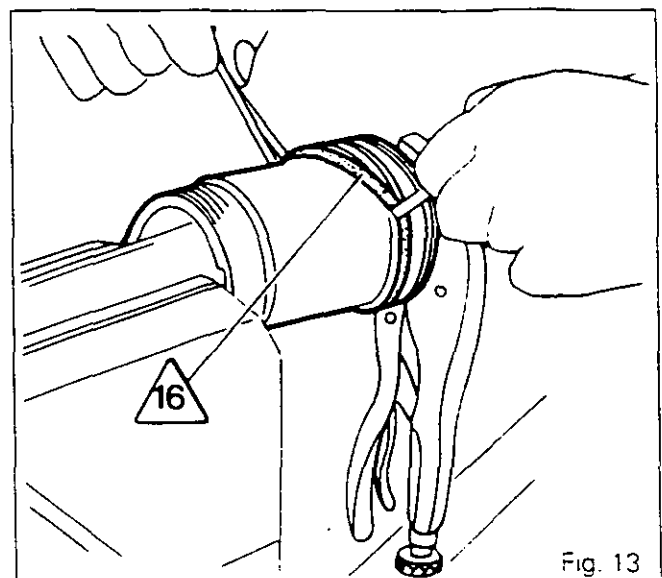

Fig. 13
15. Clean the piston (15).
17. Place the piston (with the groove facing you) on a pipe gripped in a vice. Immobilise the piston (Fig.13).
19. Work the seal /16\ gradually into the groove using two lengths of tape (Fig.13).
20. **Important: To ensure seal seated properly use cylinder (19) as a mandril.**